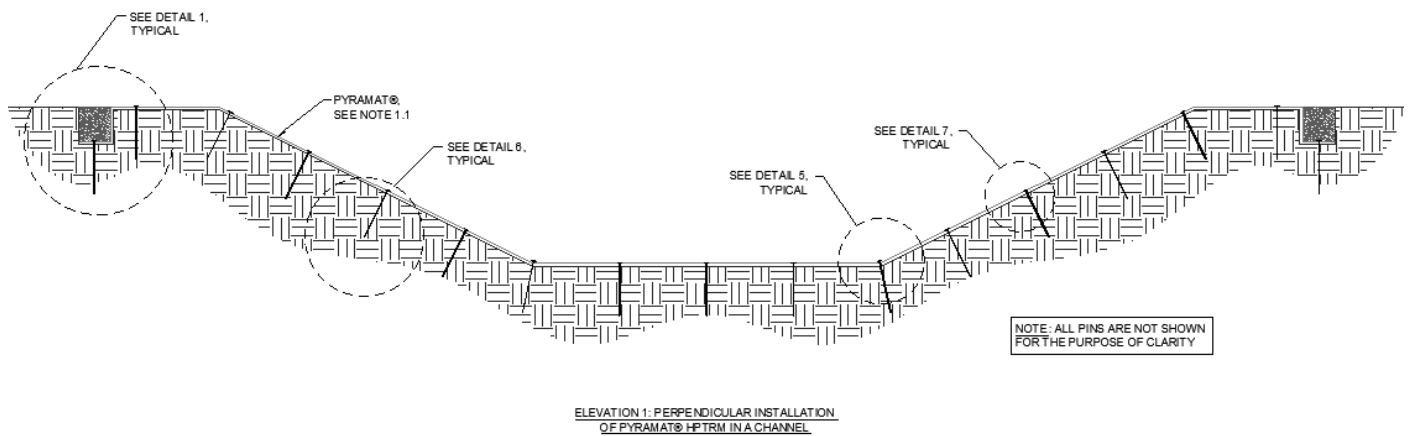

Figure 20: Completed channel elevation view
18. At a minimum, panels should be pinned entirely across the channel surface, pins should be installed in the trenches, and the trenches should be backfilled and compacted at the end of each day to minimize rework in the case of a major rain event. Specific project conditions may warrant further evaluation of installation order for ease. An example elevation view (Figure 20) of a channel armored with **PROPEX** Pyramat can be seen below for overall reference. Consult Solmax engineering services at 800.621.1273 with any questions that you may have.